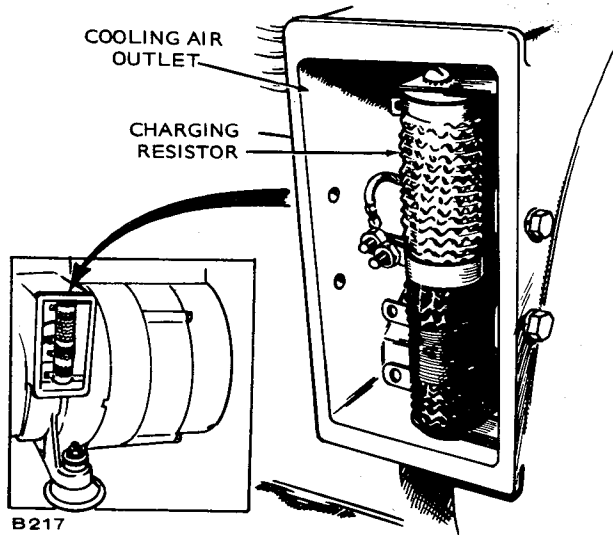

FIGURE 19. GENERATOR AIR OUTLET
3. Remove B1 lead from tapped adjustable resistor in generator air outlet opening, Figure 19.